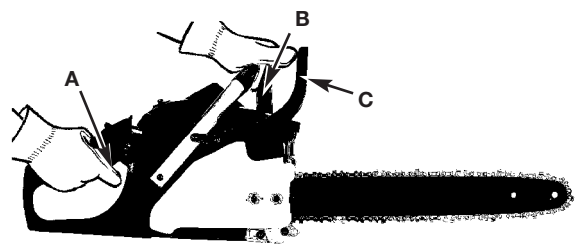

Fig. 42
5. Squeeze the throttle trigger to 1/3 throttle, then immediately activate the Chain Brake® lever (C) (Fig. 42).